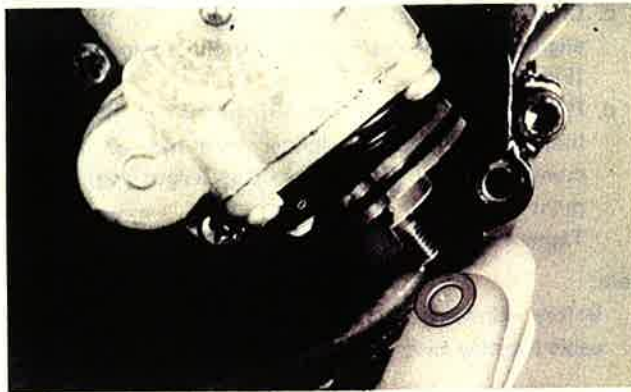

Fig. 2-3-10
- c. Remove or add an adjustment shim as required. (Fig. 2-3-10)